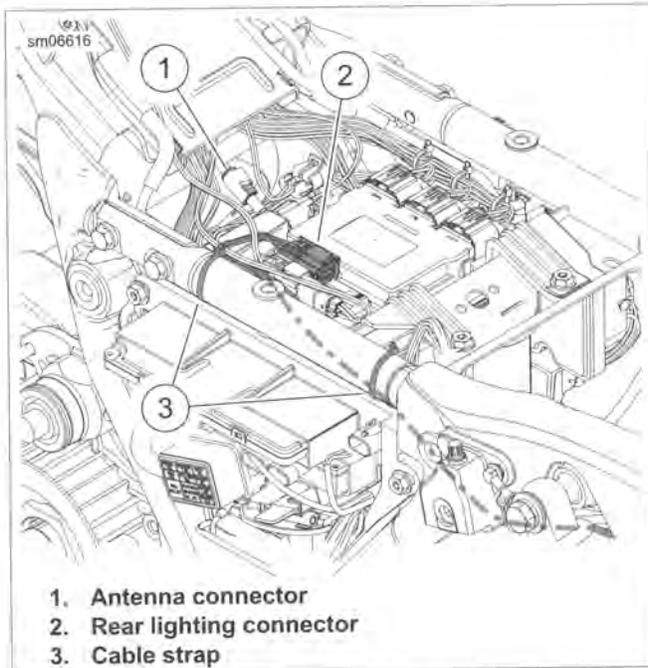
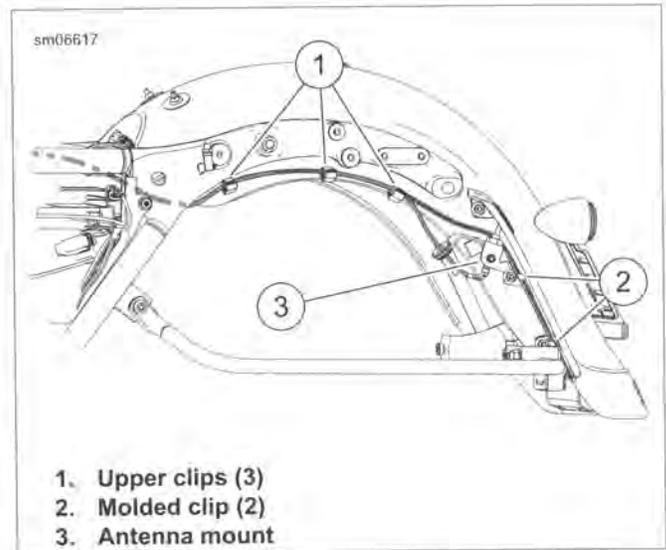

Figure 7-24. Rear Fender Lamps Harness and Antenna Cable Routing: FLHX/S
Figure 7-25. Rear Fender Lamps Harness and Antenna Cable: FLHX/S
- See Figure 7-24. Cut cable strap (3).
- Separate connector (2).
- See Figure 7-25. Release harness from upper clips (1).
- Release harness from molded clips (2) on fascia.
2. See Figure 7-24 and Figure 7-25. Route harness in approximate position, passing back under frame cross member and through opening in left caddy.
3. See Figure 7-25. Pass harness over antenna mount (3). Secure harness in molded clips (2) on inside of fascia. Connect to fender tip lamp. Pull harness up to remove slack near fender tip lamp.
4. Secure harness in three upper clips (1).
5. See Figure 7-24. Pull slack from harness. Secure rear lighting harness and antenna cable to left upper frame with new cable strap (3).
6. Mate connector (2). Secure connector housing to upper caddy.